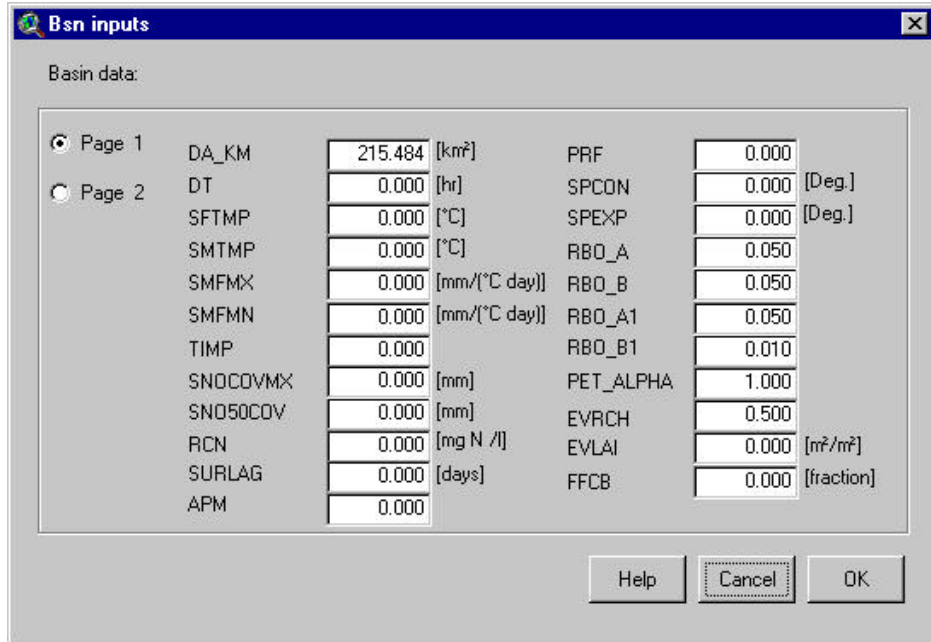

Figure 13.17
- ii. The Bsn Inputs dialog box is displayed. The dialog box contains two pages of parameters (Figure 13.17 and 13.18).